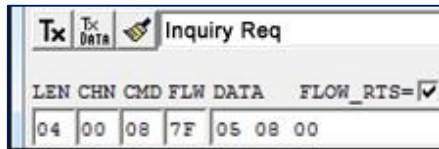

Figure 5: Inquiry Req
1. In the MpBthost window for the HID device, select **Inquiry Req** from the drop-down menu. The CMD and DATA textboxes are updated as shown (Figure 5).